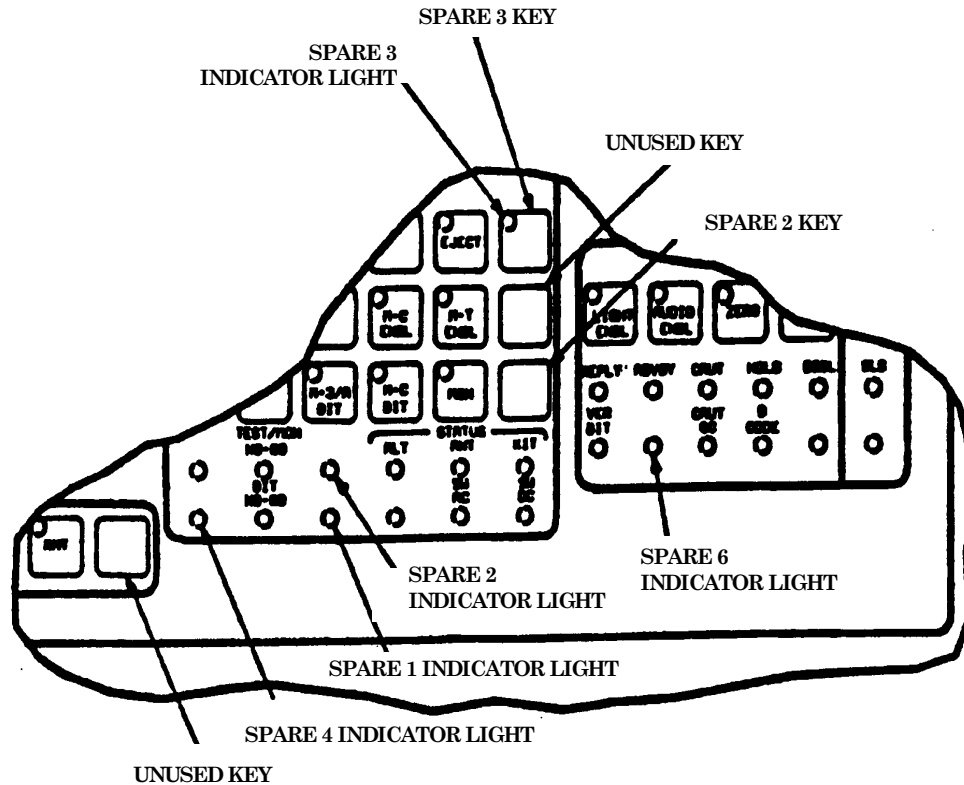

Figure 1. Spare indicator location.
3Refer to figure 1 for location.
2Refer to figure 1 for location.
(22) Connect multimeter (ac mode) to **LAMP VOLTAGE 5 VAC** test jacks on calibration on calibration test fixture.
(23) Set TI **PANEL LIGHTS** switch to **5 VOLTS**. Multimeter will indicate between 4.77 and 5.83 V ac.
(24) Move multimeter hi lead from **LAMP VOLTAGE 5 VAC** jack and connect to **LAMP VOLTAGE 28 VAC** test jack on calibration test fixture. Set TI **PANEL LIGHTS** switch to **28 VOLT**. Multimeter will indicate between 25.92 and 31.68 V ac.
(25) Set **S9** switch on calibration test fixture to **ON**. TI SPARE 6 INDICATOR LIGHT (fig. 1) on **MODE 4** keyboard will light.
(26) Set **S9** switch on calibration test fixture to **OFF**. TI SPARE 6 INDICATOR LIGHT (fig. 1) on **MODE 4** keyboard will be off.
(27) Set **S10** switch on calibration test fixture to **ON**. TI SPARE 4 INDICATOR LIGHT (fig. 1) on **TRANSPONDER CONTROL** keyboard will light.
(28) Set **S10** switch on calibration test fixture to **OFF**. TI SPARE 4 INDICATOR LIGHT (fig. 1) on **TRANSPONDER CONTROL** keyboard will be off.
(29) Return all switches on calibration test fixture to **OFF** position.